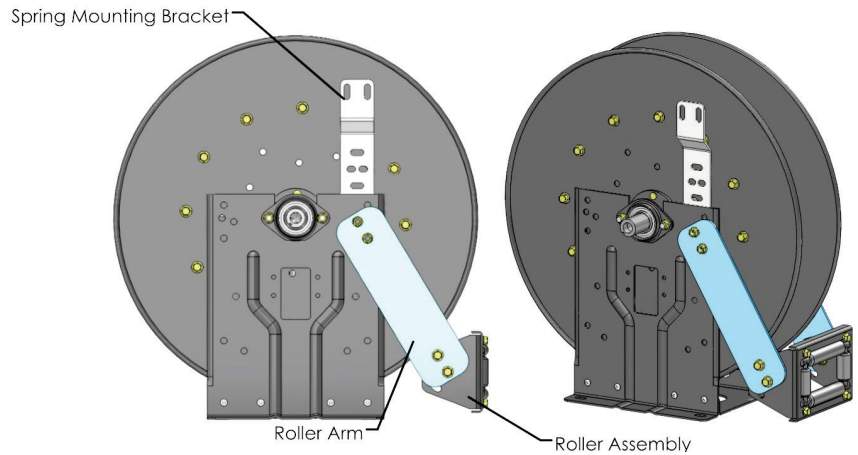

Figure 7 - Reel with Rollers in the “SR” Position
1. Remove spring per Hannay TSB 2013.06.003 Changing a Hannay Spring Motor, this can be found at [www.hannay.com](http://www.hannay.com). The reel should look like Figure 7.